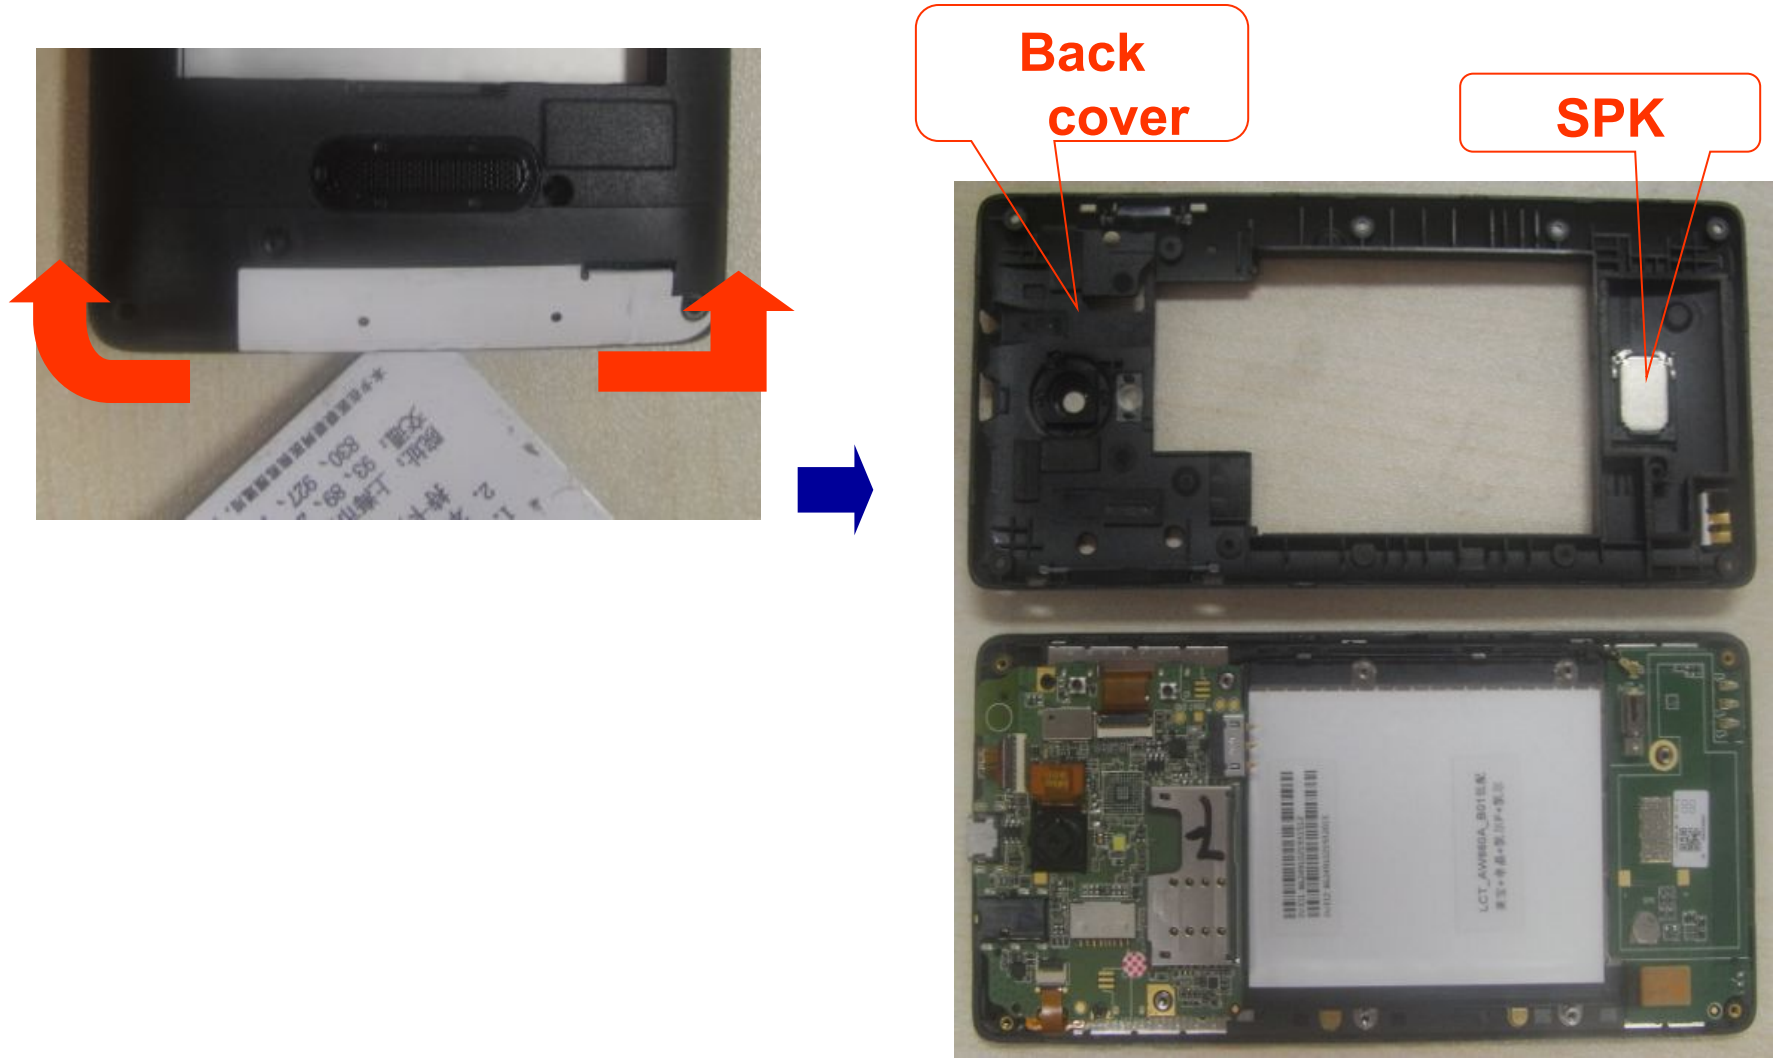

Fig. 3
2) Disassemble back cover with Tommy bar , as the Fig.3;